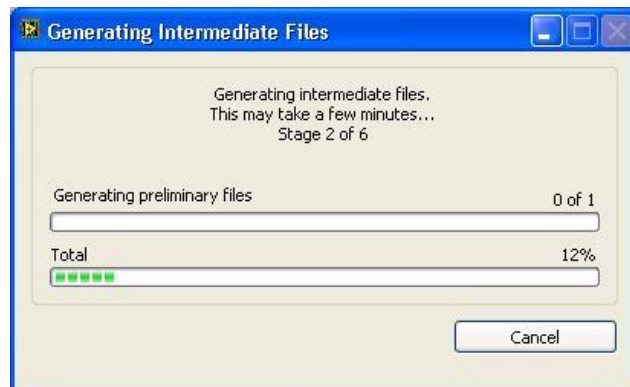

Figure 5: Generating Intermediate Files
4. Hold down the <Ctrl> key on your keyboard while pressing the **Run** arrow in LabVIEW. This will trigger the VI to be compiled. An intermediate file conversion will take place as shown in Figure 5. Note that you may be prompted to save changes. Save the changes and continue with the compile process.